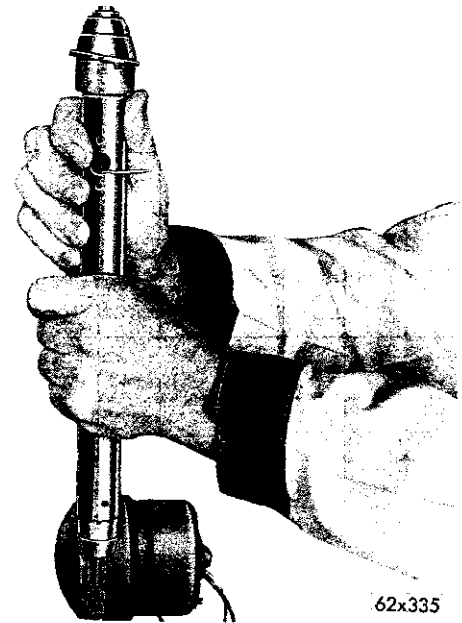

Fig. 10—Installing Mast Support
(2) Apply 12 volts D.C. to the "brown (down) power lead and ground. Feed approximately 12 inches of the nylon cord into the drive. Push the "water seal washer" and "bottom insulator" all the way down into the "tubular fitting". Apply 12 volt D.C. power until "nylon cord" disappears.
(3) Push the "outer mast section" down into the "tubular fitting". Make sure that the upper edge of the flange on the "insulator bushing" is below center of the 3 holes in the "tubular fitting".
(4) Install the support tube assembly in proper position making sure the hook-up wire is extended through the large hole in the body (Fig. 10).